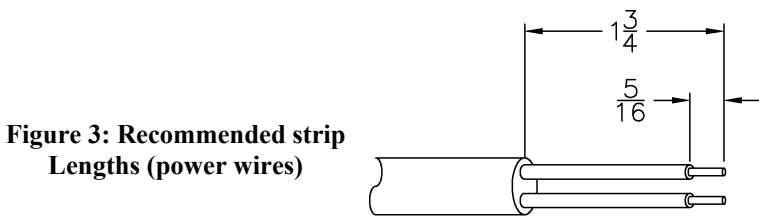

Figure 3: Recommended strip Lengths (power wires)
4. Strip power wires and alarm cords as shown in figure 3. Follow the connection diagram shown inside the caddy box. Two terminal blocks will be for the incoming pump power supply. The other two may be used to join an alarm float to remote alarm panels. **NOTE:** Remote alarm panel not included. Consider ordering a 10A100, 10A200, or 10A500 alarm separately. Alternatively, consider a 10A650 which includes an alarm circuit.